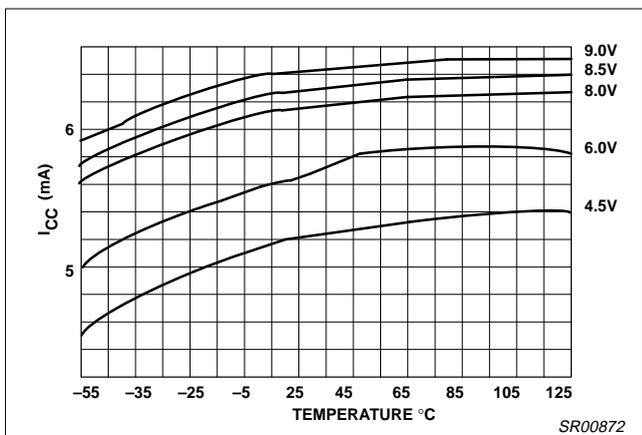
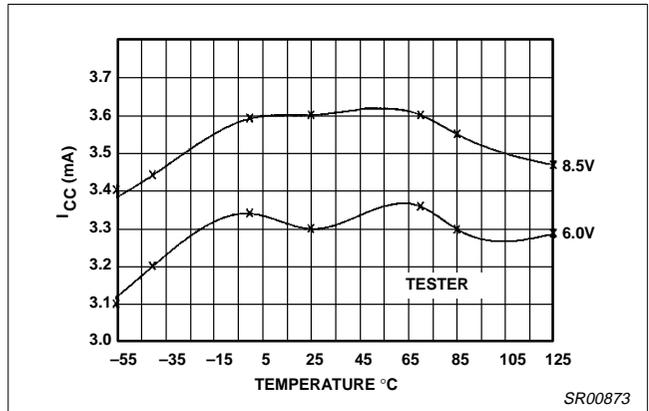

Figure 33. NE605 I_{CC} vs Temperature
Figure 34. NE604A I_{CC} vs Temperature
A. The NE605 consumes about 5.6mA of current at 6V. This level is slightly temperature and voltage dependent as shown in Figure 33. Similar data for the NE604A is shown in Figure 34.